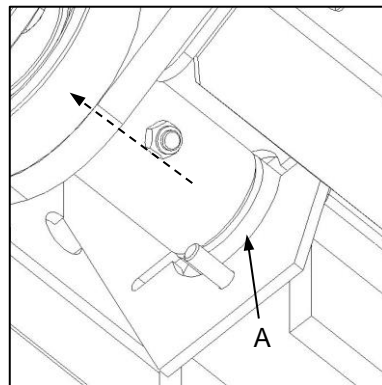

Fig. 4
- ✔ The shafts may be extracted through the aperture provided (Fig. 4-A), giving access to the support bushes for inspection or replacement.
- ✔ Verwyder die asse deur die gat (Fig. 4-A), wat toegang tot die steunbusse sal bied vir inspeksie of vervanging.